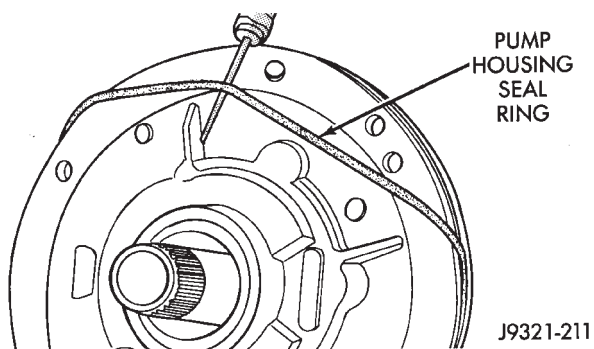
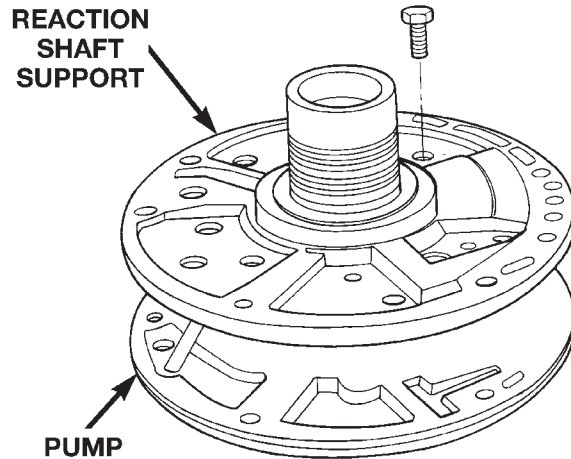

Fig. 146 Removing Pump Seal Ring
Fig. 147 Pump Support Bolts
- (1) Remove seal ring from housing and reaction shaft support (Fig. 146).
- (2) Mark pump housing and support assembly for alignment reference.
- (3) Remove bolts attaching pump body to support (Fig. 147).